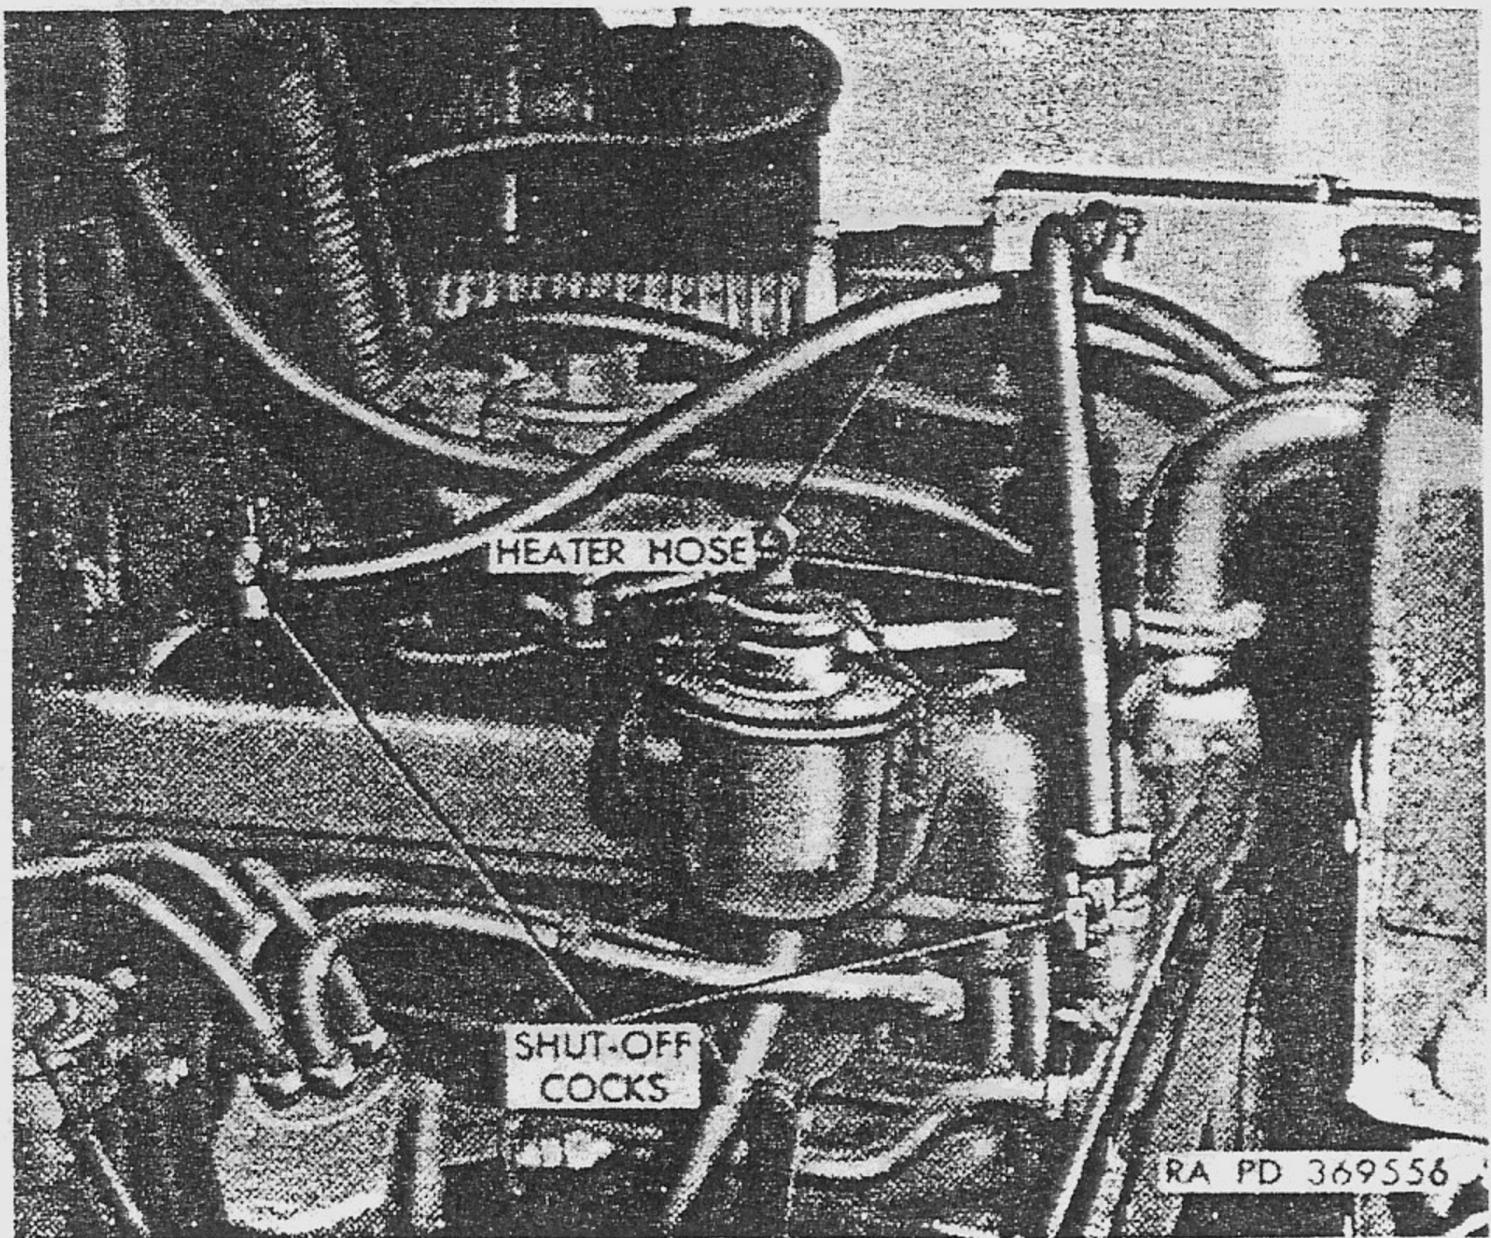
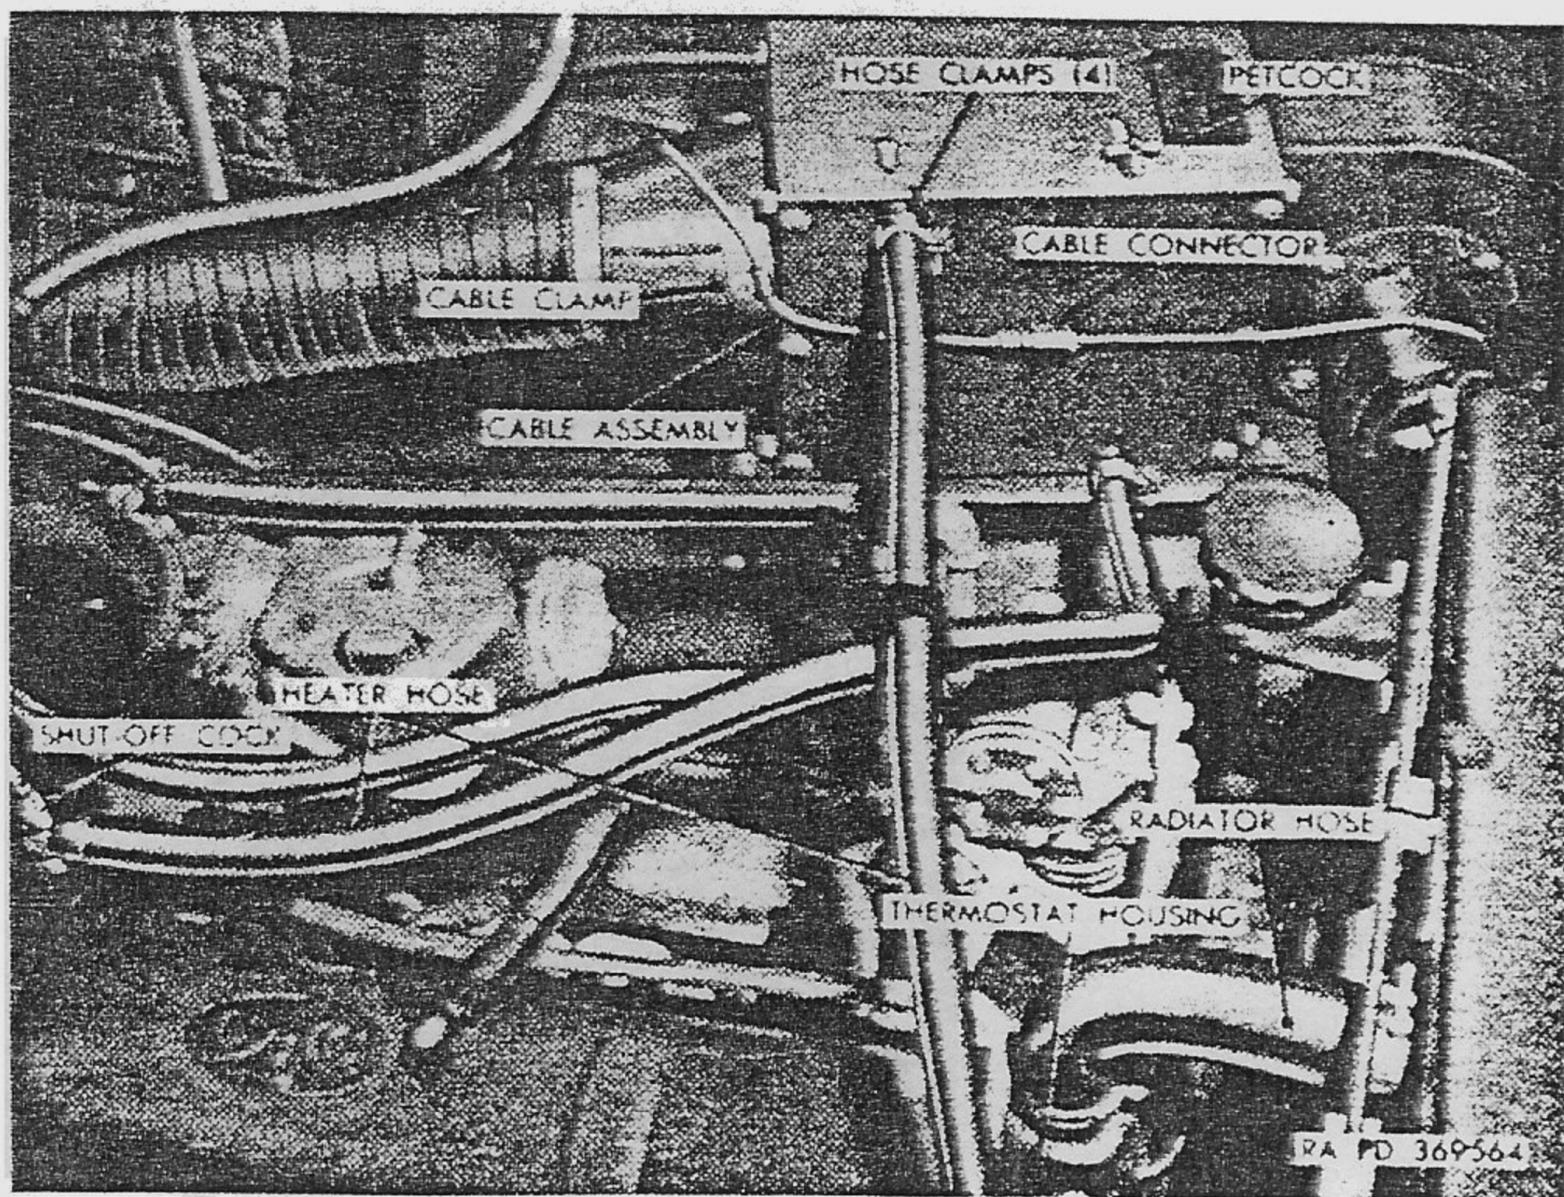

Figure 2. Shutoff cocks installed.
Figure 10. Heater hose and wiring cables installed.
- (1) Release the hood clasp on each side of hood and raise to "first raised" position. Telescoping side supports will automatically lock and hold hood in this position.
- (2) Press release button on each side support and raise hood to "completely raised" position.
c. Remove square-head plug H106-0143980 from tee below water bypass line on right side of engine and install shutoff cock (CC, fig. 1 and fig. 2). From manifold side of engine, remove similar plug and install pipe bushing (Y, fig. 1), 2½ inch nipple (BB, fig. 1), straight coupling (X, fig. 1), and shutoff cock (CC, fig. 1 and fig. 2).
d. Install heater hose (RR, fig. 1) on top outlet of heater (fig. 10) and on shutoff cock on right side of engine as shown in figure 2. Install heater hose (SS, fig. 1) on bottom inlet of heater and on shutoff cock on left rear of engine as shown in figure 2. Secure hose to inlet and outlet of heater and to shutoff cocks with four hose clamps (Z, fig. 1) as shown in figures 2 and 10.
e. Remove radiator hose (fig. 10). Remove thermostat housing and gasket and replace thermostat with a new thermostat (DD, fig. 1) and thermostat gasket (GG, fig. 1). Install thermostat housing and radiator hose.
run engine until thermostat has opened and circulation of cooling liquid is satisfactory. Open petcock (fig. 10) on top of personnel heater to make certain all air has escaped from heater and lines. Inspect and secure all connections against possible leaks.
a. Connect heater cable (with cable connector) to 91-inch wiring cable assembly (FF, fig. 1) as shown in figure 10. Secure cable to heater outlet adapter with cable clamp (KK, fig. 1) and existing outlet adapter screw. Run cable through the choke grommet in vehicle firewall.